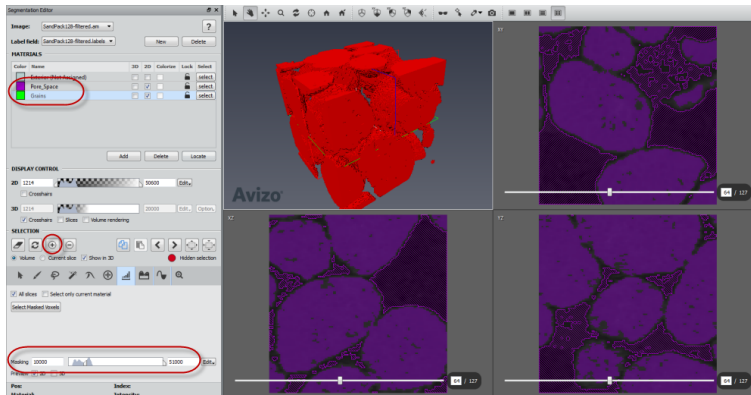

Figure 4.65: Roughly assign "Grains" phase in Segmentation Editor.
- Select "Grains" in *Materials* list, use the large + button in the *Selection* group or press key 'A' to assign the selection to "Grains" material (see Figure 4.65).